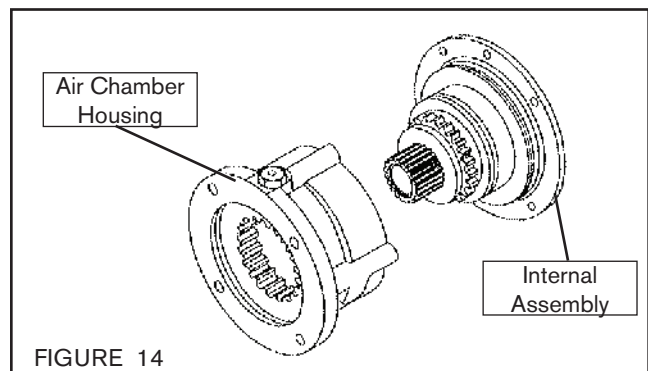

FIGURE 14
1. Slide the Air Chamber Housing (Item 2) onto the internal assembly (See Figure 14).